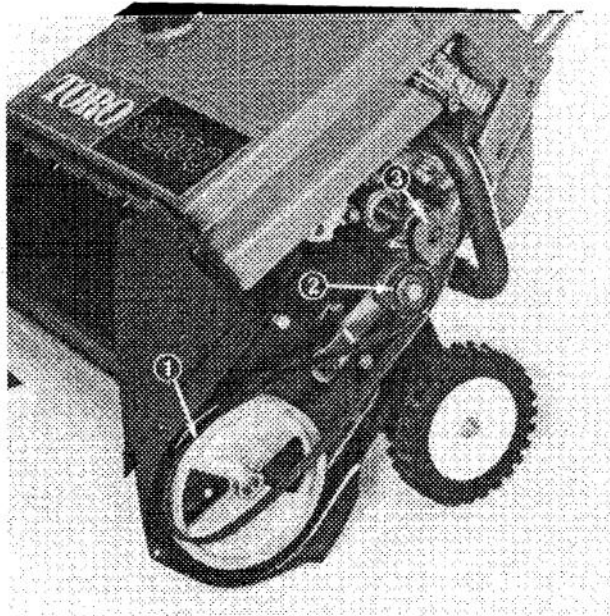

Figure 17
5. To install new belt, loop belt around engine pulley, under the idler pulley, and start the belt around the impeller pulley (Fig. 17).